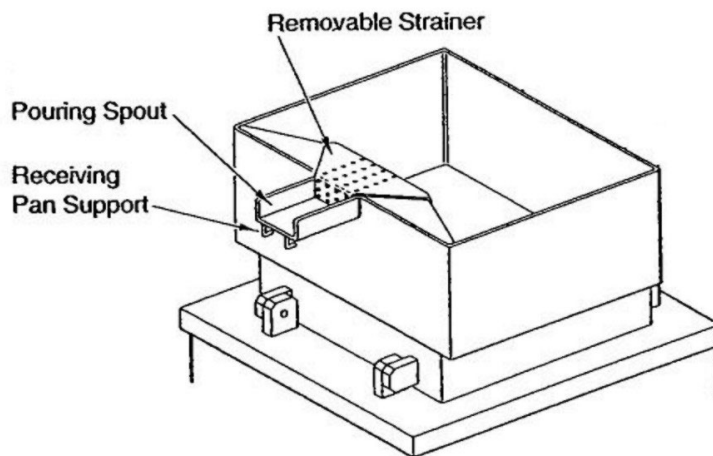

FIGURE 2
4. Food is poured through the removable strainer (Figure 2) into a food receiving pan positioned under the lip of the pouring spout (Figure 2).
1. Thoroughly wash pan, pouring spout (See Figure 2), lid and exterior surfaces with detergent and warm water. If necessary, soak pan to remove food that is stuck to pan surface. Rinse thoroughly and wipe dry with a soft clean cloth.
2. Clean removable strainer and receiving pan support (see Figure 2) with detergent and warm water. Rinse thoroughly and wipe dry with a soft clean cloth.